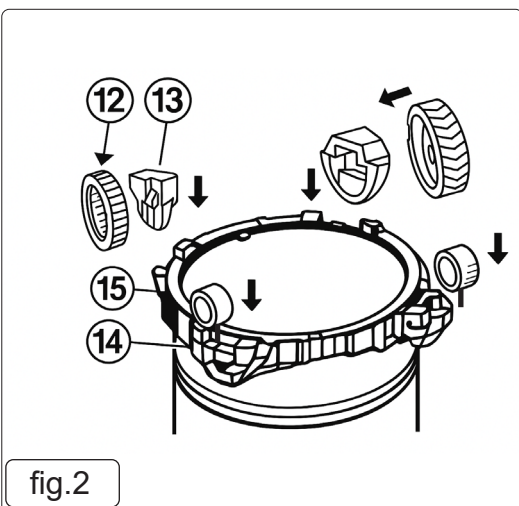

fig.2
- 5.1. Assemble the wheel as shown in fig.2. Refer to the parts information for additional guidance.